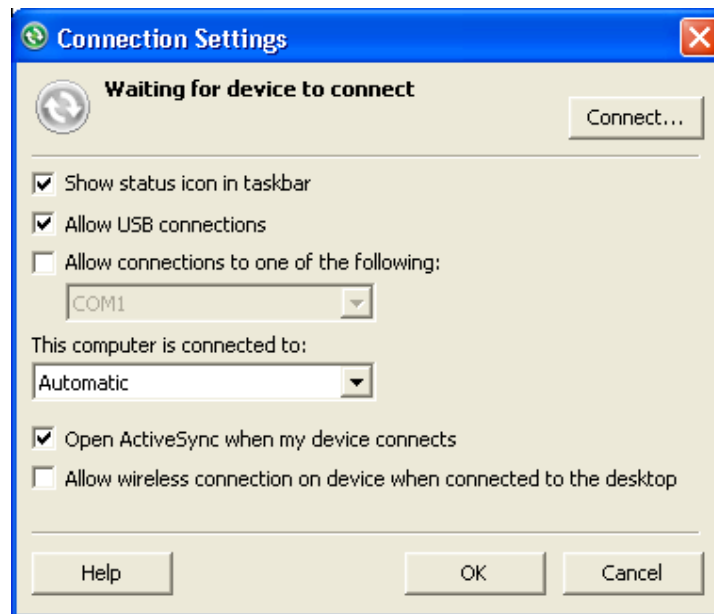

Figure 1.6: ActiveSync v.4.5 connection settings
- According to which medium you are connecting through (COM1 or USB on the host workstation), activate the appropriate check box, as shown below in Figure 1.6 or 1.7 (according to the version of ActiveSync installed).